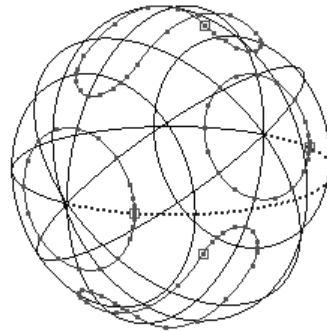

Figure 7-64 Curves-on-surface generated on the camera
14. Similarly, activate the **Top** window and project the linearc on the camera; curves-on-surface are generated along all four sides of the camera, as shown in Figure 7-64.